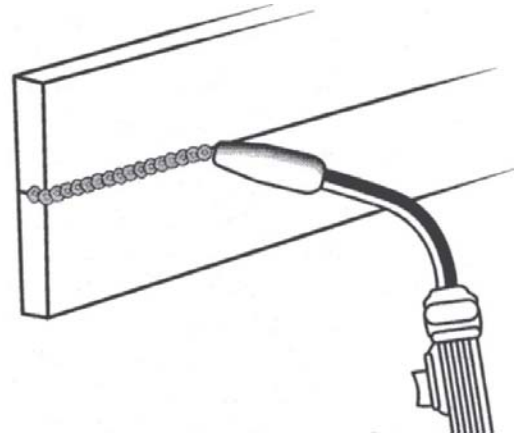

Figure 14. Horizontal Position
2. The HORIZONTAL POSITION (Figure 14) is next in difficulty level. It is performed very much the same as the flat weld except that